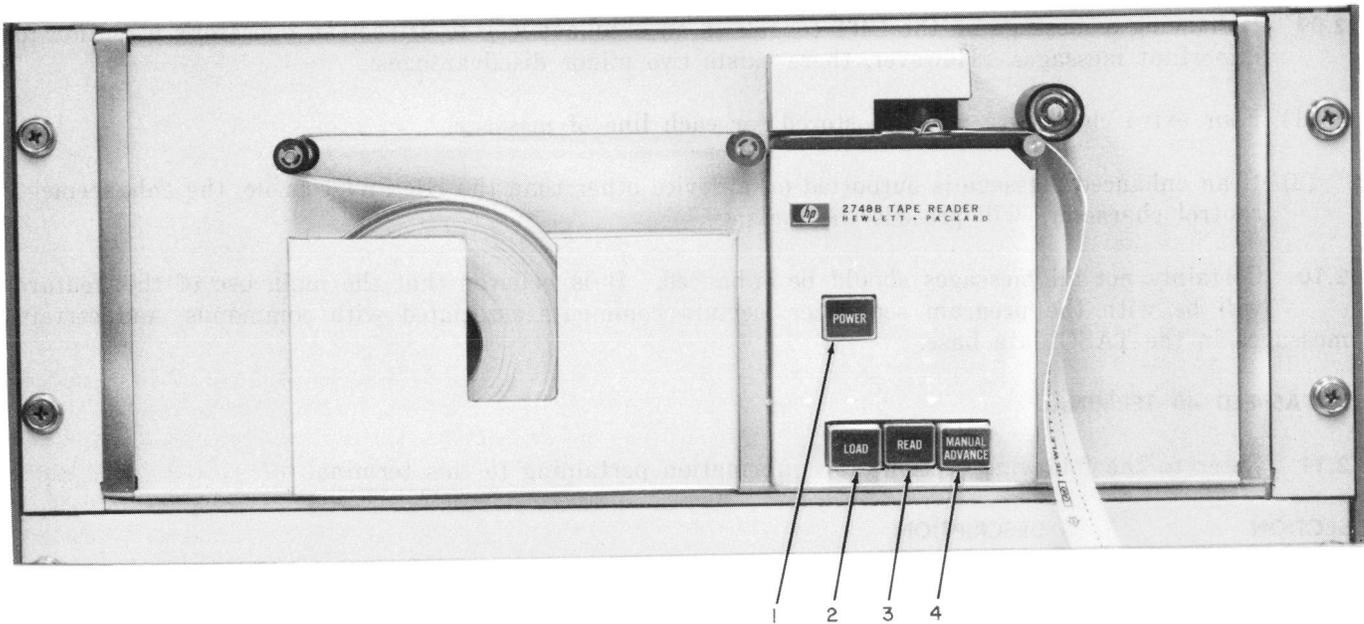

Fig. 3—HP Type Reader
**2.12** Table C contains a functional description of the HP tape reader controls. Figure 3 is an example of the HP tape reader.